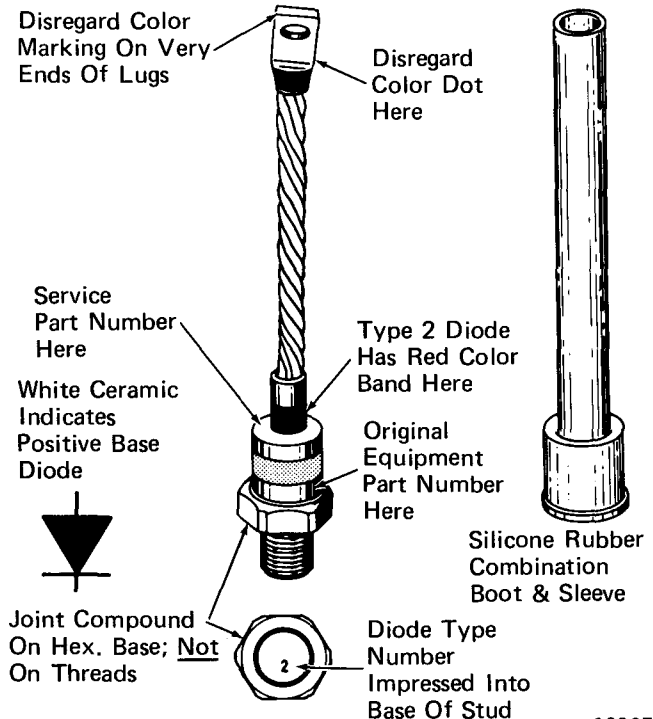

Fig. 3 - Positive Base TYPE 2 Silicon Diode With Identification Markings
7. Apply a thin coat of joint compound under hex portion of the diode, Fig. 3.
8. Apply a thin coat of joint compound under hex portion of the diode, Fig. 3.
9. Apply a thin coat of joint compound under hex portion of diode, Fig. 3.